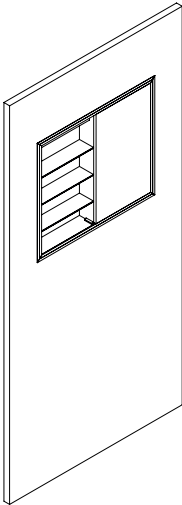

Fig 6.
7. Insert the metal shelf supports in desired position. Install each glass shelf into shelf supports and tighten the plastic grub screw on the underside. This will securely clamp the shelf into position, *see Fig. 6*.